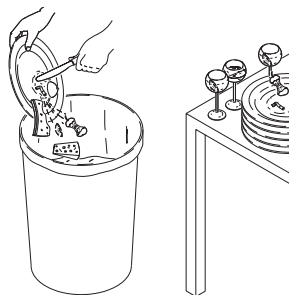

Fig. 13
- Remove any residual food from the dishes before washing them in the dishwasher (fig. 13)